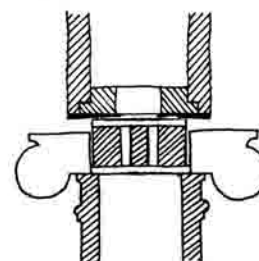

Figure 7-8
2. Use shims to lock the capital in place before securing with screws (Fig. 7-8).